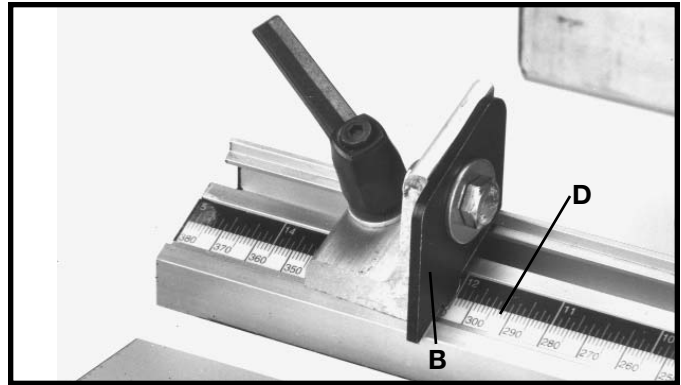

Fig. 59
Figure 59 illustrates the left stop. The stop is positioned 12 inches to the left from the center of the fence. The distance is read by the position of the stop (B) on the English/Metric scale (D). If the stop (B) is not to be used, the workpiece is placed against the fence and stop (B) automatically moves to the rear allowing the workpiece to be placed flush against the fence.